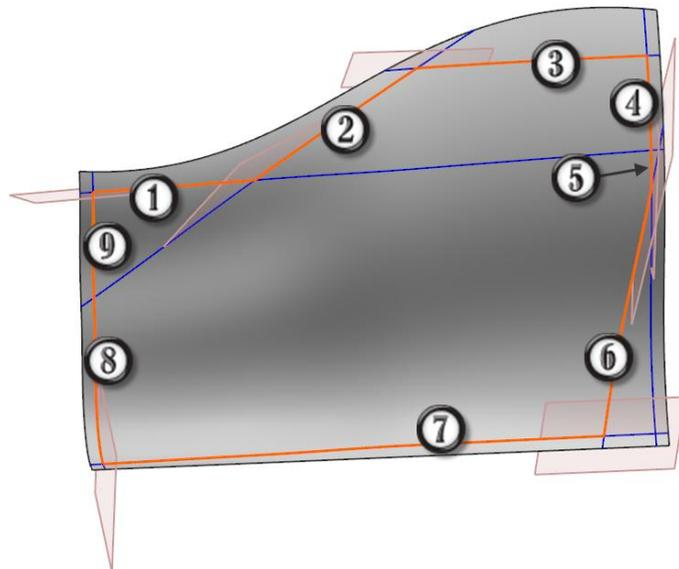

Figure 2–7
9. Under *Settings*, select **Hide Original** option and **General** for *Joint Curves*. as shown in Figure 2–8.